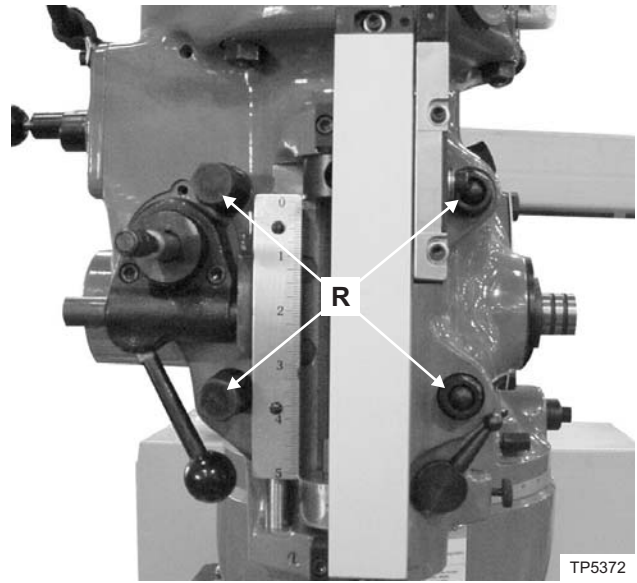

Figure 2.20 - Positioning the Head (Front View)
1. Loosen four locknuts "R", Figure 2.20, but leave some drag for fine adjustment.